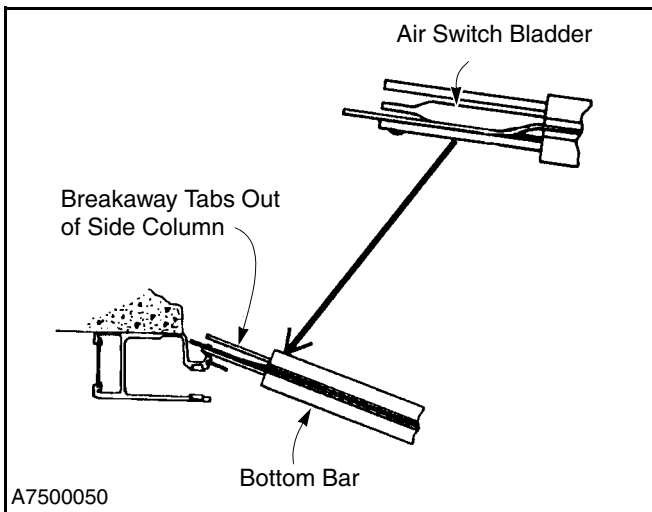

Figure 27
1. With the bottom bar separated from the side columns, locate the kill switch assembly bladder at each end of the bottom bar, then inspect each bladder for damage. Replace if required. (See Figure 27.)